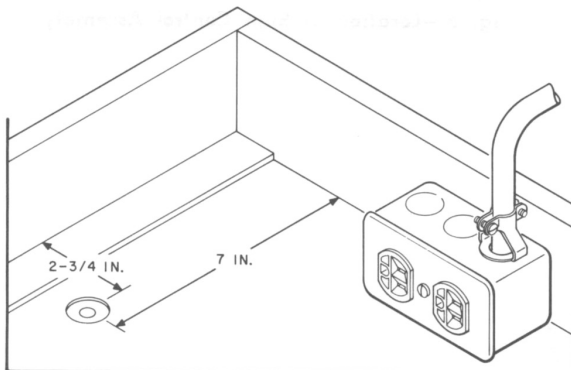

Fig. 5—Location of Hole for Sign Control Assembly
- (1) Remove four wood screws and remove roof from booth.
- (2) Mark the location for drilling a hole in ceiling in accordance with Fig. 5.
- (3) Using a large expansive bit or equivalent, drill a 1-5/16 inch diameter hole in the position marked to a depth of approximately 1/8-inch.
This 1-5/16 inch hole will accept the ring nut on the switch (Fig. 5)